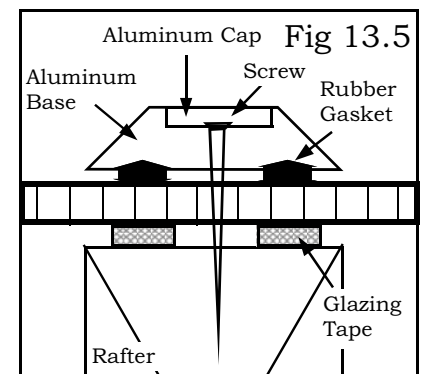

Fig 13.5
C. On framing where rafter is in the middle of the panel (fig 13.5):